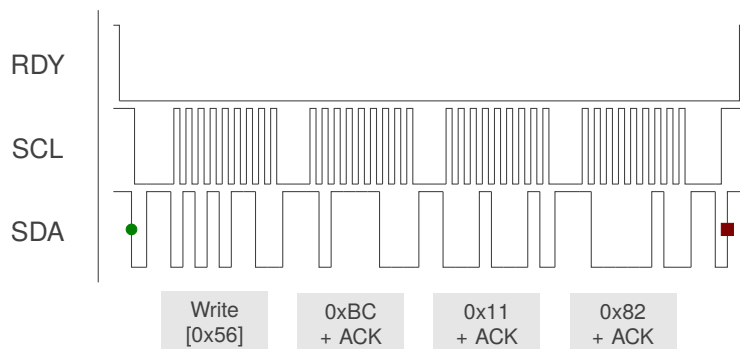

Figure 12.2: I²C Write Example - Write 0x82 (Ack Reset bit) to System Control Register 0x11BC
The write operation is displayed in Figure 12.2. Similar to the read transaction, when the RDY interrupt is triggered, the master initiates communication by sending a start condition followed by the device address along with a write command. The IQS9150/IQS9151 will respond with an acknowledgement, after which the master device will transmit two bytes defining the register address. The slave acknowledges the register address bytes. The master may then write a series of bytes to the register address and the addresses which follow, with each byte being acknowledged by the slave. The write operation is ended when the master produces a stop condition.
- > Write the value 0x82 to Register 0x11BC as shown in Figure 12.2.